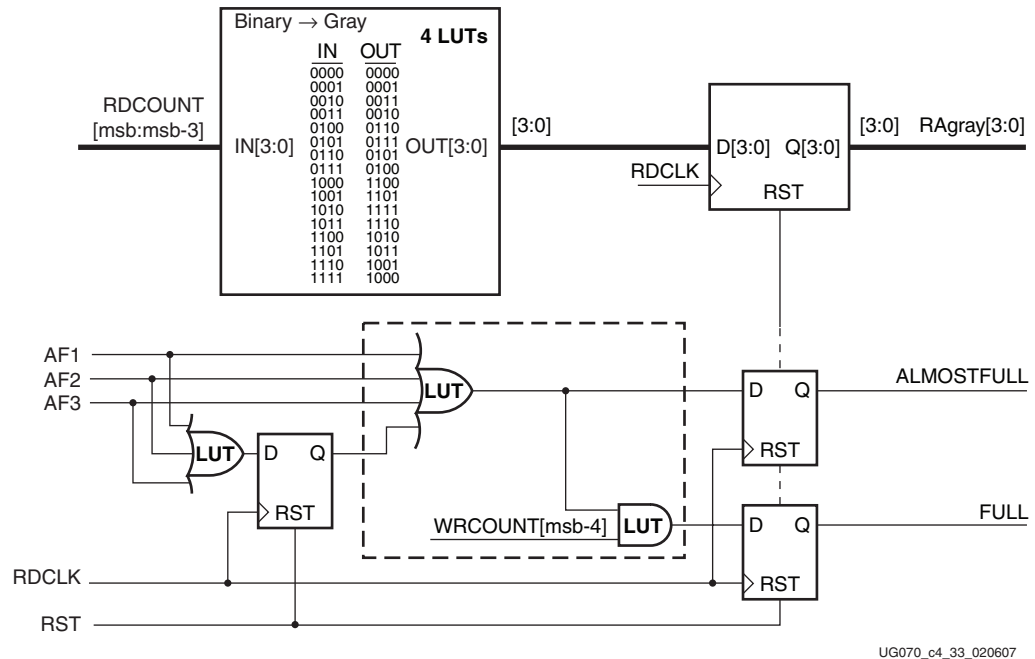

Figure 4-32: ALMOSTFULL and FULL Flag Generation
Flag AF1, AF2, or AF3 goes High if the read sector (RAgray) is equal to write counter sector one, two, or three respectively. A High on one of these flags sets the ALMOSTFULL flag High as shown in Figure 4-32.
- Setting and clearing of ALMOSTFULL occurs between two and three WRCLK periods after equality goes true or false, respectively in Figure 4-32.